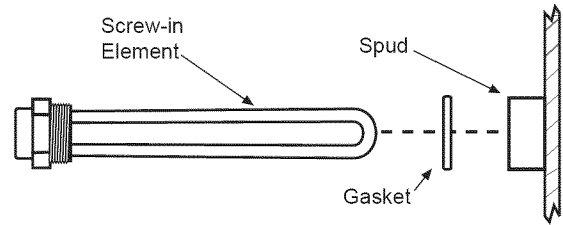

FIGURE 21.
9. Make sure the replacement element(s) has the correct voltage and wattage rating by matching it to the rating plate on the water heater. Position the new gasket(s) on the element and insert it into the water heater tank (Figure 21). **NOTE:** Apply a light coat of hand dishwashing soap and water to the gasket. Tighten the element by turning it clockwise until secure.